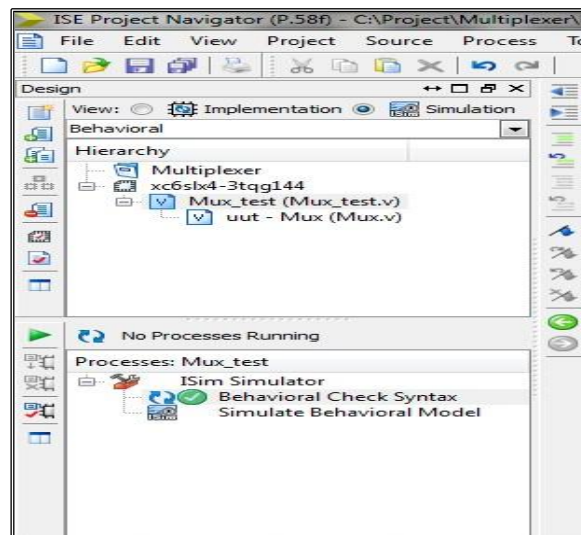

Fig 2.18: Behavioral Simulation
17. After editing the testbench, click on **Behavioral Check Syntax** in the Processes window to check for syntax errors in the testbench. If no errors are present double click on **Simulate Behavioral Model** (Fig 2.18).